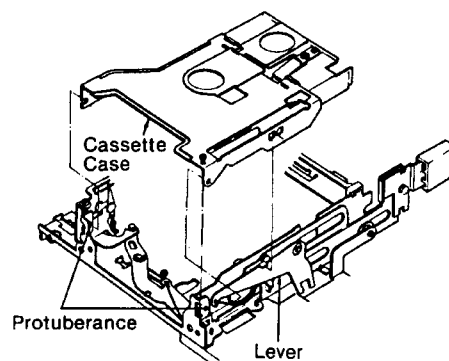

Fig. 13
- (2) Insert the cassette case as shown in fig. 13.